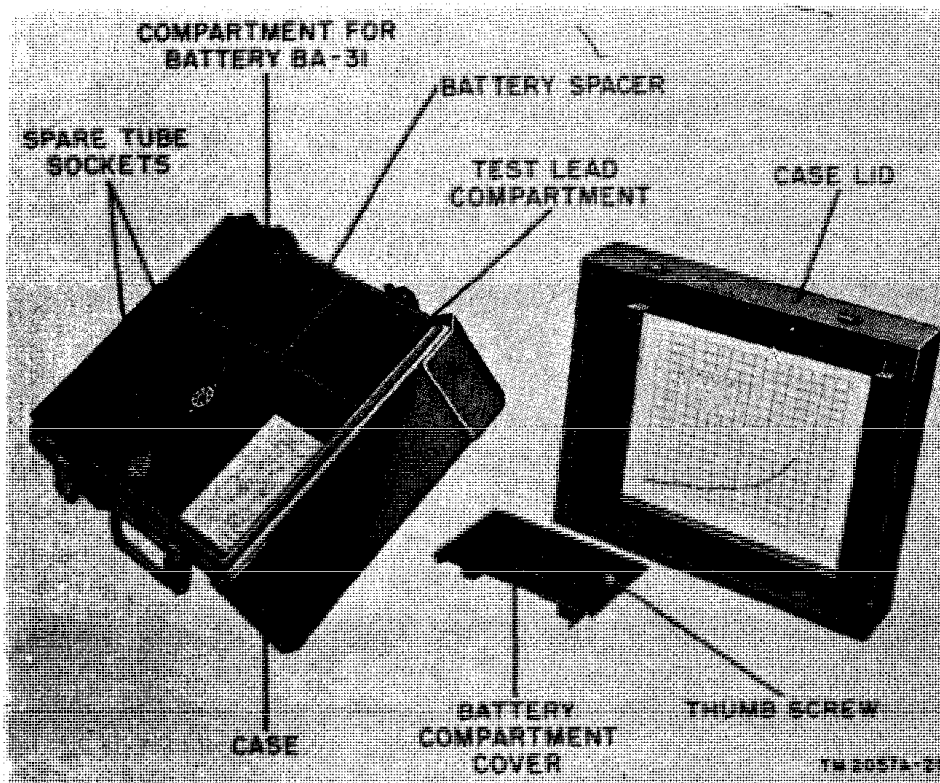

Figure 22. Test Set TS-27B/TSM, case components.
- (1) Loosen the thumbscrew (fig. 22), and remove the battery compartment cover from the case.
- (2) Lift Batteries BA-59 from the battery compartment, and remove plugs P2 and P3 from the batteries.
- (3) Lift Battery BA-15-A from the battery compartment, loosen battery terminal nuts, and remove wires from battery.
- (4) Lift Battery BA-31 from the battery compartment, loosen battery terminal nuts, and remove wires from the battery.
- (1) Secure wires to Battery BA-31 terminals by means of the terminal nuts. Connect blackwire to the plus terminal, and brown wire to the minus terminal. Check the wiring with the wiring diagram shown in figure 21. Insert the battery in an upright position into the lower left-hand corner of the battery compartment under the battery clip (fig. 22).
Note. When 45-volt batteries are used, which are slightly wider than the standard Battery BA-59, remove the battery spacer (fig. 22) from the side of the battery compartment.